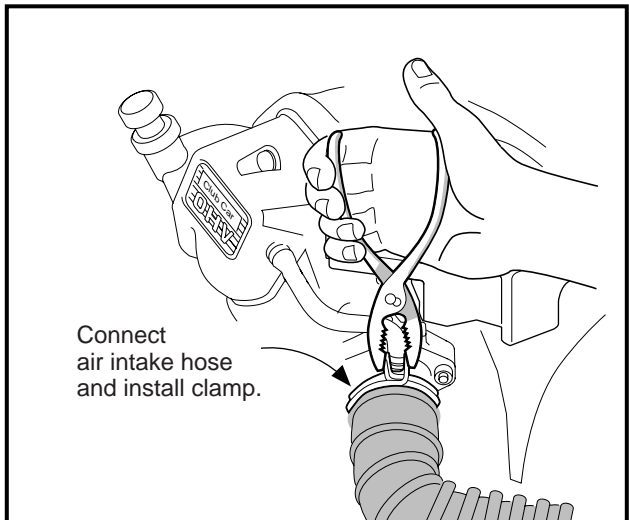

Figure 16-101 Air Intake Hose
31. Connect air intake hose to carburetor and secure hose clamp **(Figure 16-101, Page 16-40)**.